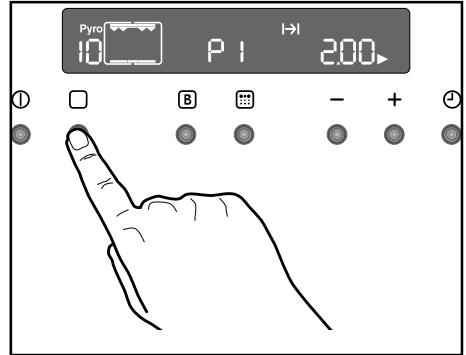

Fig. 17
1. Press button  to switch on the oven. Press the  button as often as necessary, until the "Pyro" function symbol  (level 1 - P 1) will appear in the display (Fig. 17).